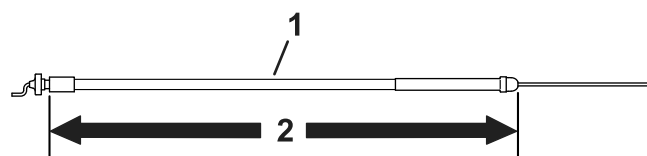

Figure 7
- Use the throttle cable that is 158.3 cm (62-3/8 inches) long for all models, but not for a Model 04056 traction unit; refer to Figure 7.